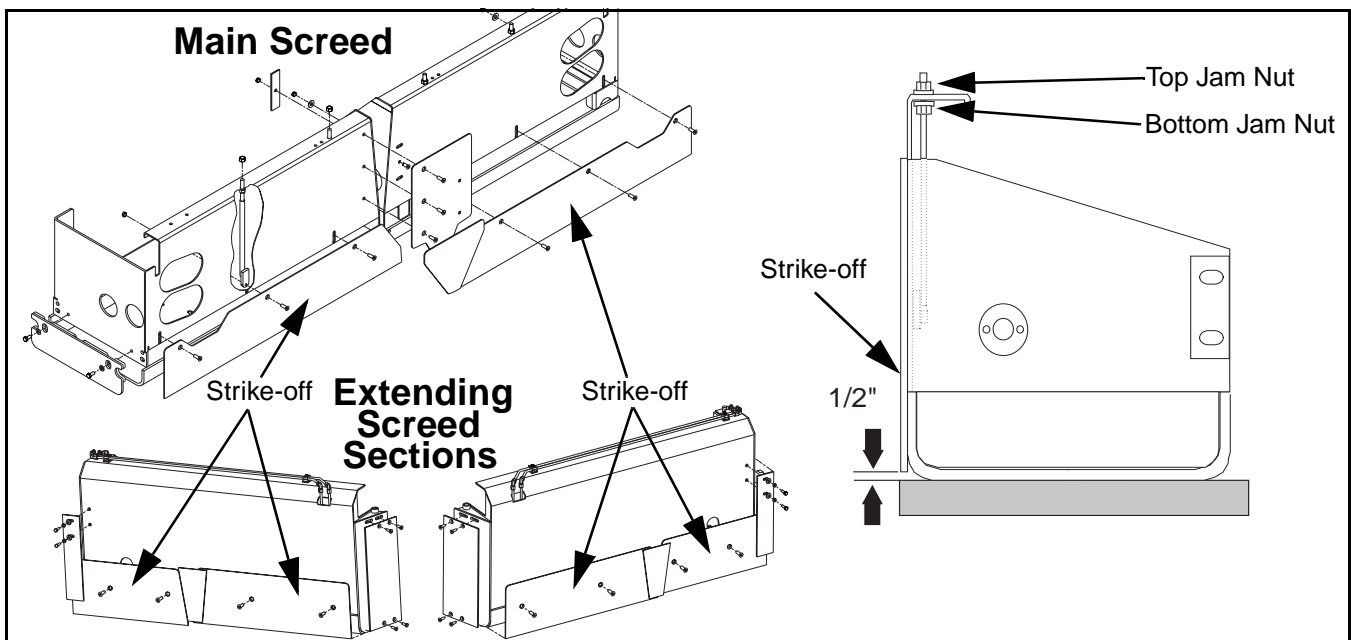

Figure 26 Strike-Off Adjustment
above the screed bottom and will work fine with most material designs. (Figure 26) There are some material designs that will require changing the setting to allow the screed to run with the desired 1/8 inch to 1/4 inch nose-up attitude or angle of attack.
- 1) Place a straight edge against the bottom of the screed and measure from the straight edge to the bottom of the strike-off. (Figure 26)